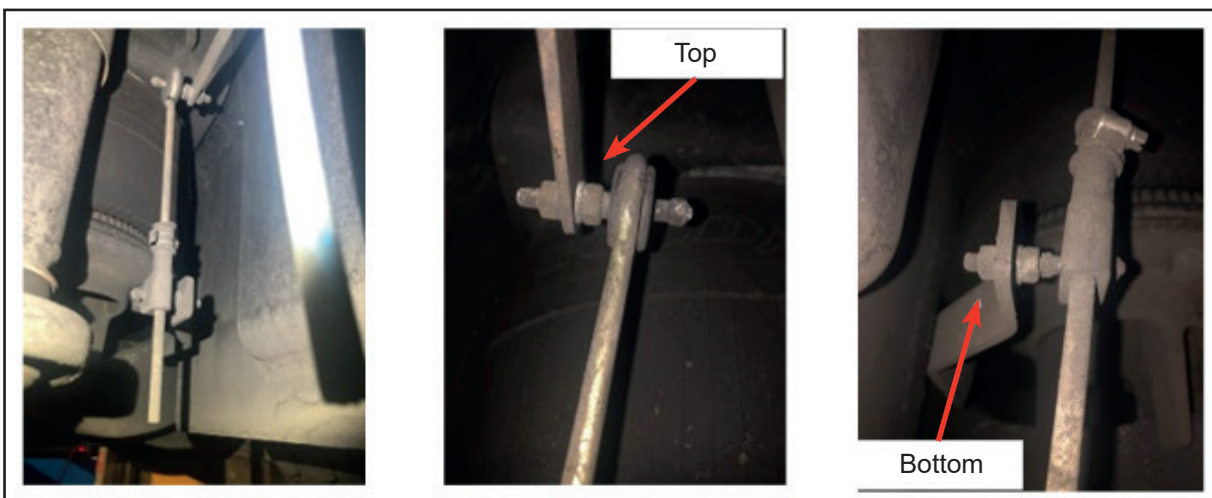

Figure 18 - Loosening the Nuts
1.43. Loosen top and bottom nut (See Figure 18).